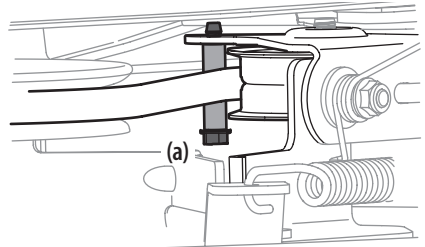

Figure 36
6. Remove the belt keeper (30" decks only) by removing the hex bolt (a) that secures it. See Figure 36.